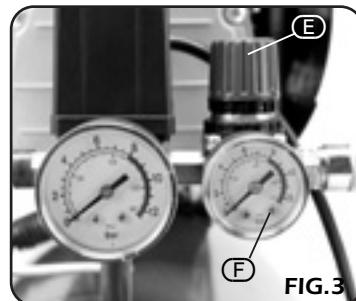

FIG.3
- WORKING PRESSURE ADJUSTMENT (Fig.3.):